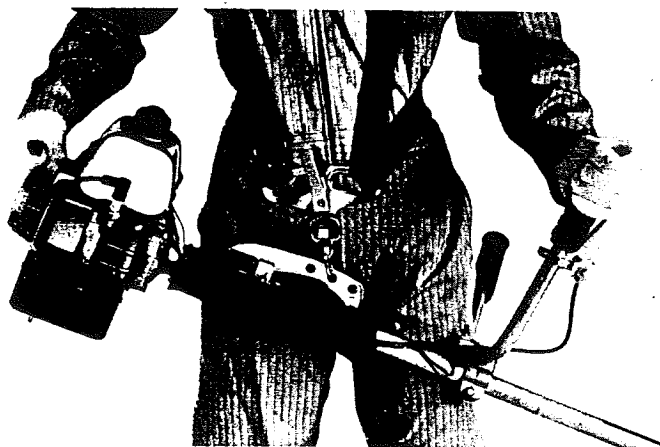

Figure 10
5. Pull the recoil starter briskly. Figure 10 CAUTION: Gradually return the handle . . . DO NOT LET IT SNAP BACK! Pull the rope in the direction of the starter rotation. DO NOT pull the starter cord all the way out of the drum. NOTE: Use only one-half to two-thirds of your starter cord length for starting.